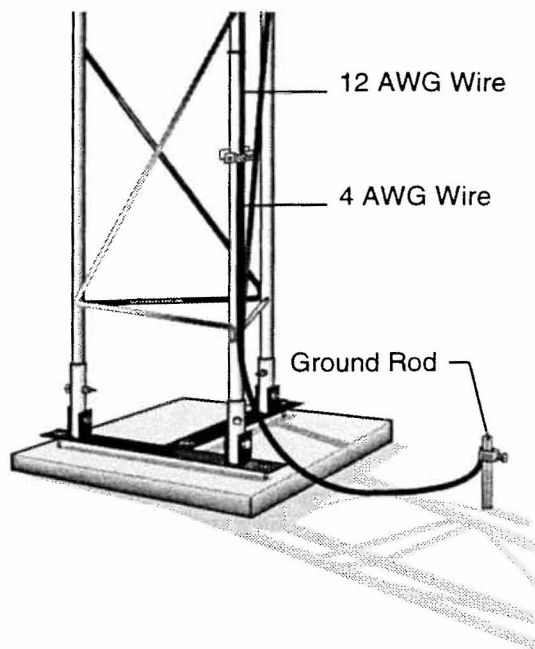

FIGURE 3-5 Tower Grounding
2. Loosen the bolt that attaches the clamp to the ground rod. Insert one end of the 4 AWG wire (approximately 1/2" diameter) between the rod and the clamp and tighten the bolt as shown in Figure 3-5.
3. Attach the tower grounding clamp to a tower leg as shown in Figure 3.5. Loosen the grounding clamp set screw and insert the unattached end of the 4 AWG wire, and one end of the green 12 AWG wire into the hole behind the set screw and tighten the set screw. Route the green wire to where the enclosure will be installed.